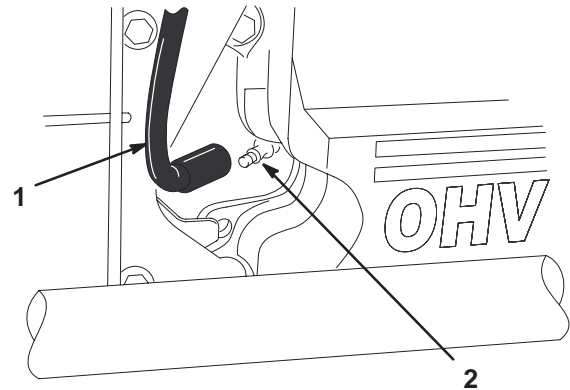

Figure 27
- Pull the wire(s) off of the spark plug(s) (Fig. 27). Clean around the spark plug(s) to prevent dirt from falling into the engine and potentially causing damage.
3. Push the wire(s) onto the spark plug(s) (Fig. 27).